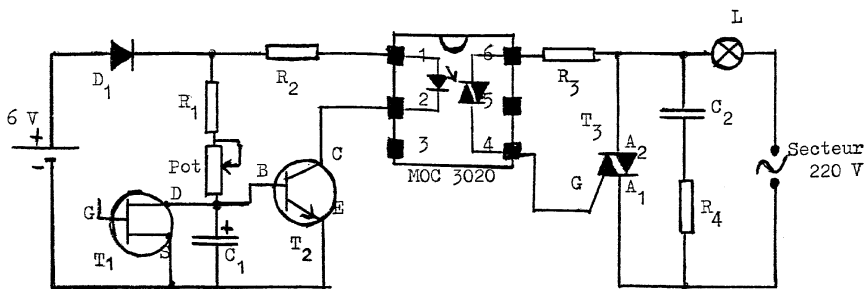

Figure 1
2. SCHÉMA DE PRINCIPE (Figure 1)